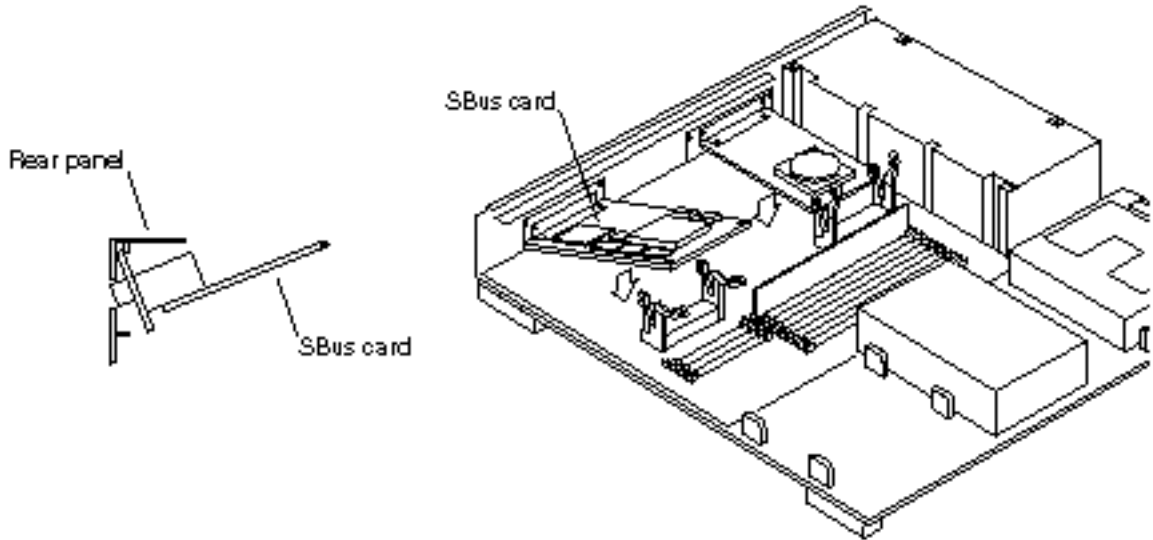

Figure 7-6 Installing the SBus Card in Slot 2 or 3
7. Slide the SBus card at an angle into the back panel of the system unit. See Figure 7-6.